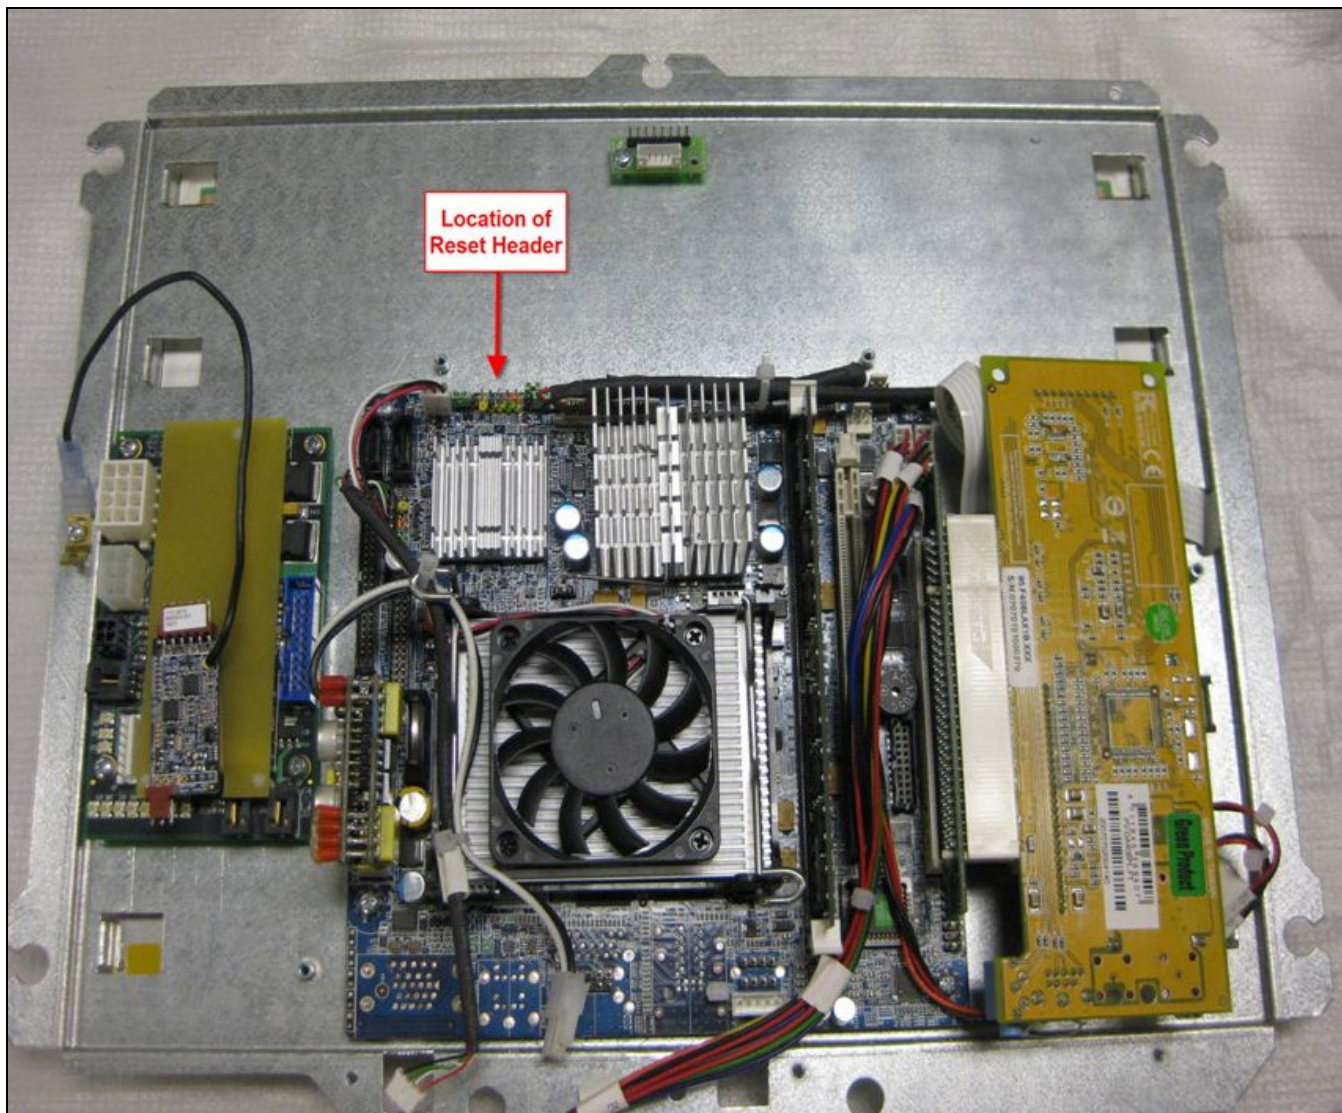

Fig. 3
3. Locate the jumper header as shown in Fig. 3 and 4.